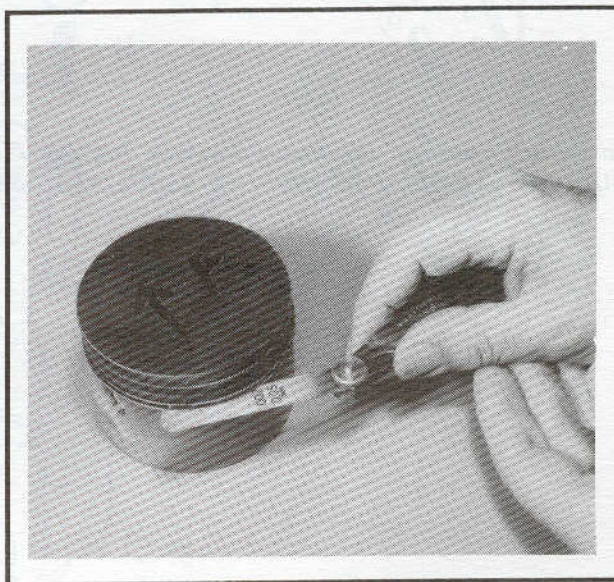

Figure 3-34. Measure Ring Side Clearance
4. See Figure 3-34. Check the ring side play in the piston grooves. If the ring grooves are clean and the side play is still not correct, replace the rings, the piston, or both.